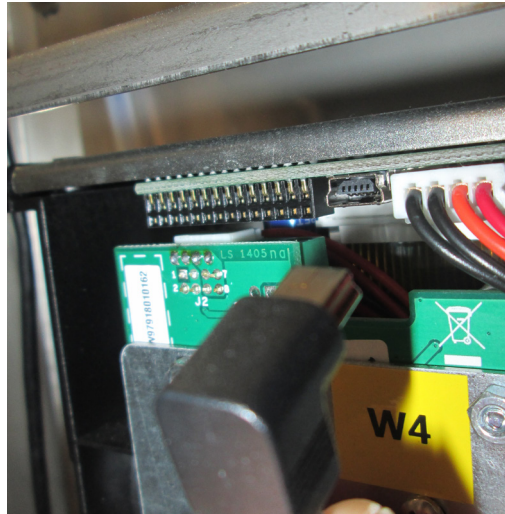

Figure 7 – Printer plug
- ▶ Plug the mini-USB connector to the printer on the back side of the front door panel (Figure 7);